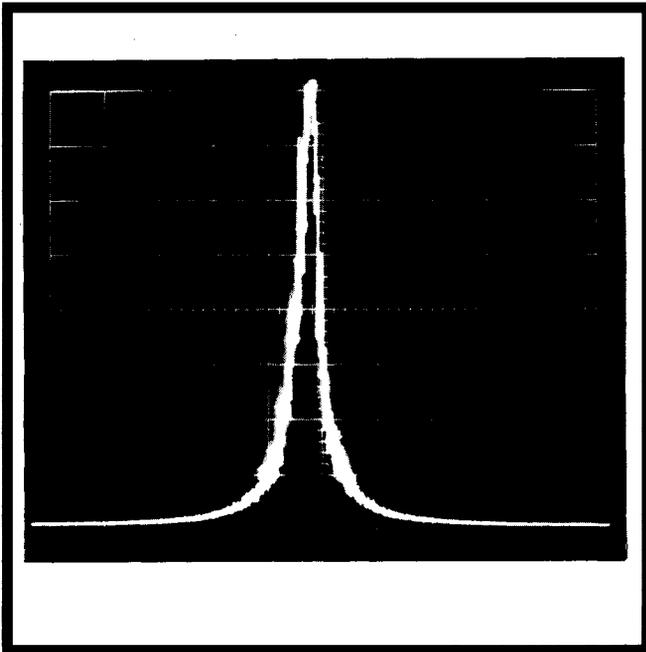

Fig. 5-6. Typical display showing incidental frequency modulation. Measure the horizontal displacement of the signal at the most vertical slope of the signal.
f. Check the amount of signal frequency modulation (see Fig. 5-6). Must not exceed 1 minor division. ( $\leq 200$  Hz).